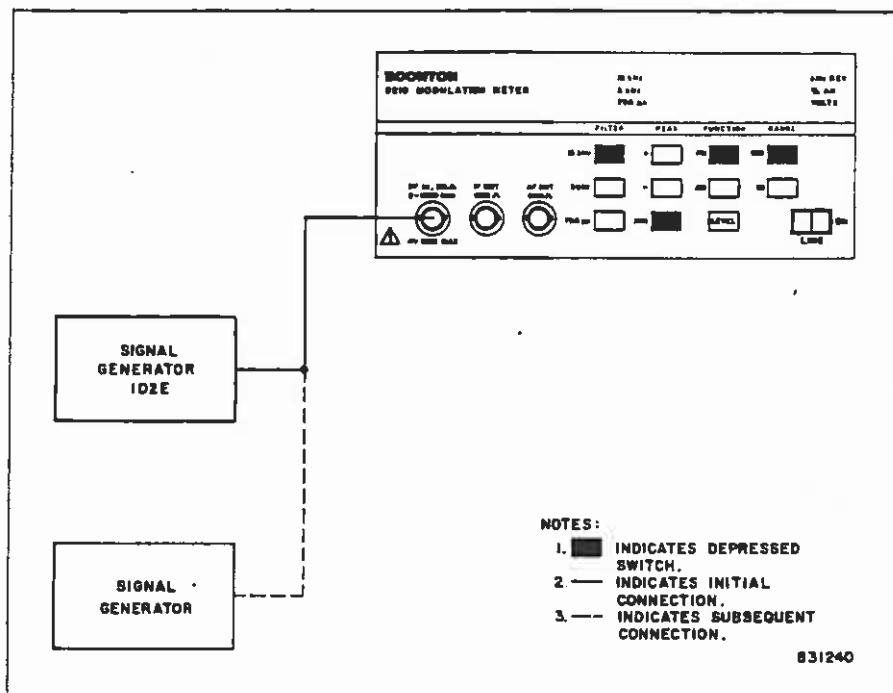

Figure 2-6. Test Setup: R.F. Input Sensitivity
1. Connect the 8210 and test equipment as shown in Figure 2-6.
2. Depress the switches of the 8210 as indicated in Figure 2-6.